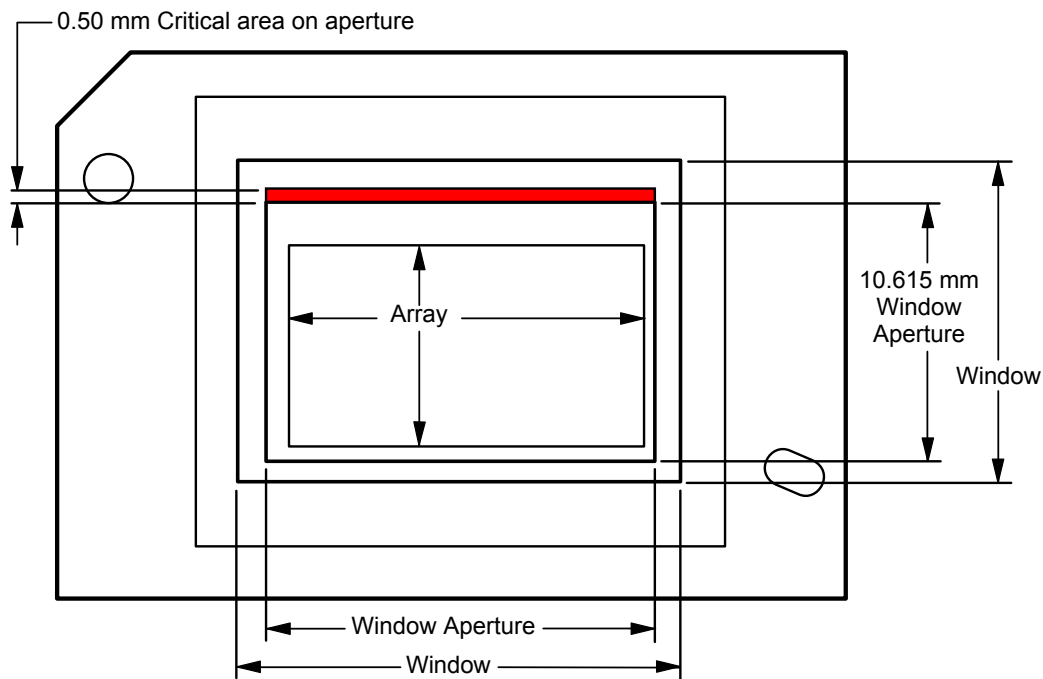

図 5-2. Illumination Overfill Diagram—Critical Area
- (17) Applies to the region in red in 図 5-2
- (18) The maximum allowable optical power incident on the DMD is limited by the maximum optical power density for each wavelength range specified and the micromirror array temperature (T_{ARRAY}).
- (19) To calculate see セクション 6.7.